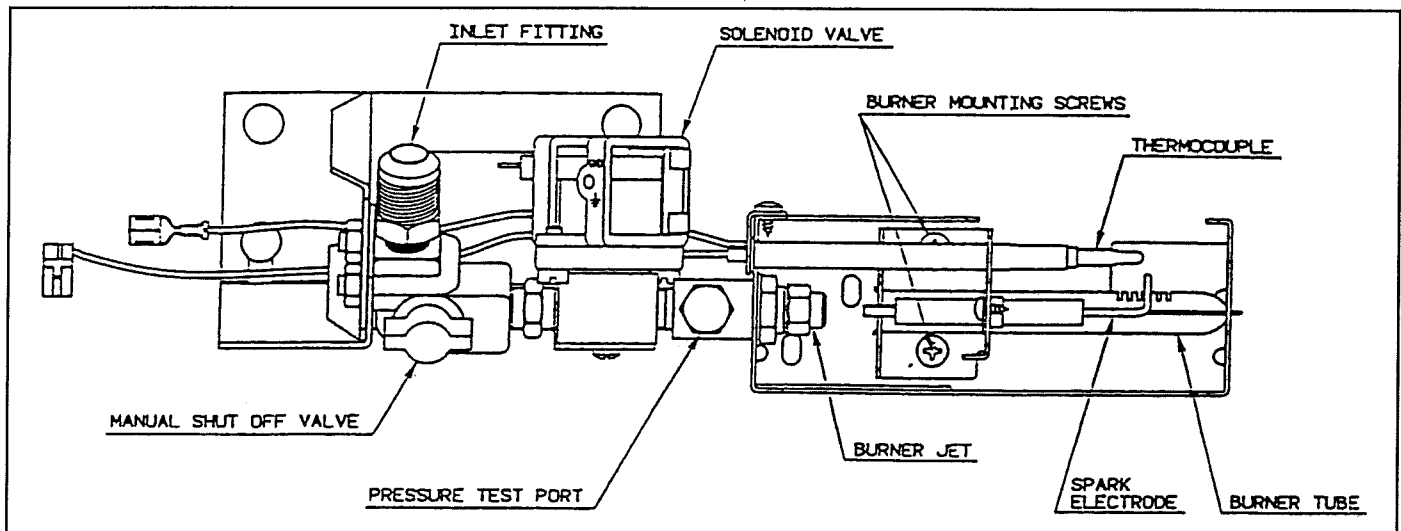

Figure 10
- D. The LP gas pressure should be checked and the main regulator re-adjusted if pressure is incorrect. The correct operating pressure is 11 inches of water column. The correct place to take the LP gas pressure is at the test port just ahead of the burner jet. (See Fig. 10).
6. Remove the burner mounting screws and remove the burner assembly. (See Fig. 10).